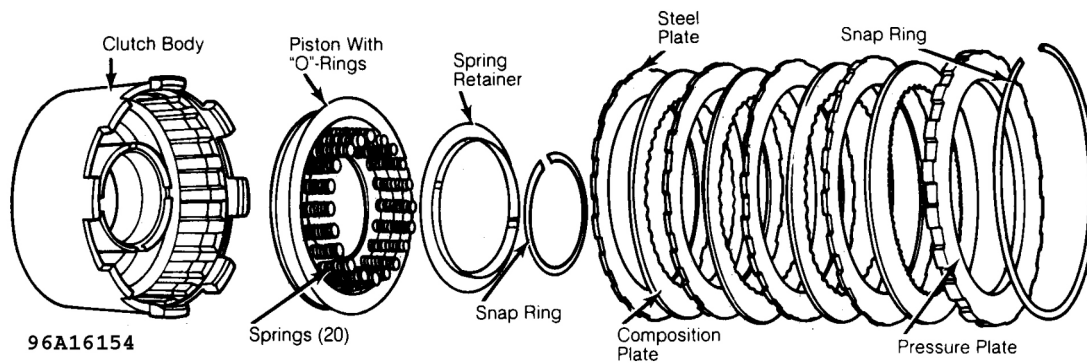

Fig. 23: Exploded View of Reverse-High Clutch Assembly
2. Install new "O" rings on piston and clutch body. Carefully install clutch piston, using Seal Protectors (T74P-77404-A) to protect inner and outer seals. See **Fig. 23**.